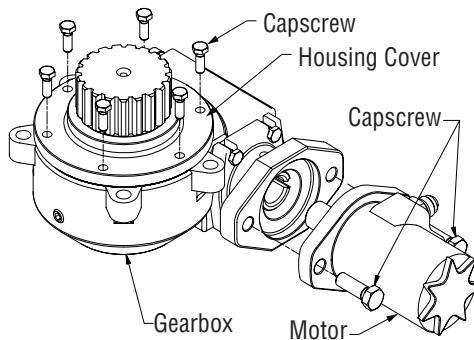

Figure 5-14, Motor/Gear Cap Removal
3. Place the gearbox on a flat surface and remove the Motor mounting capscrews. (Figure 5-14)
4. Remove the capscrews from the gear cap. The gear cap capscrews are installed with Loctite, so use a long handle wrench to break them loose. Using a large screwdriver and hammer, separate the gear cap from the housing. (Figure 5-14)